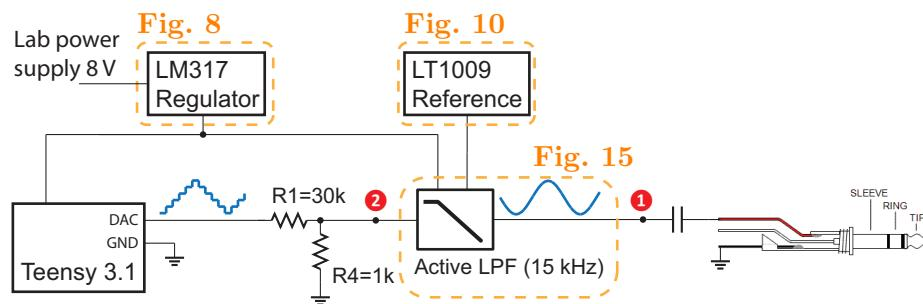

Figure 16: Acquiring signal through computer sound card.
1. Set up the system according to Fig. 16.
7. Now use the audio cable to acquire the signal after the gain stage (position 2 in Fig. 16). Record the data and compare it with that from the last step. Explain the difference, if there is any.